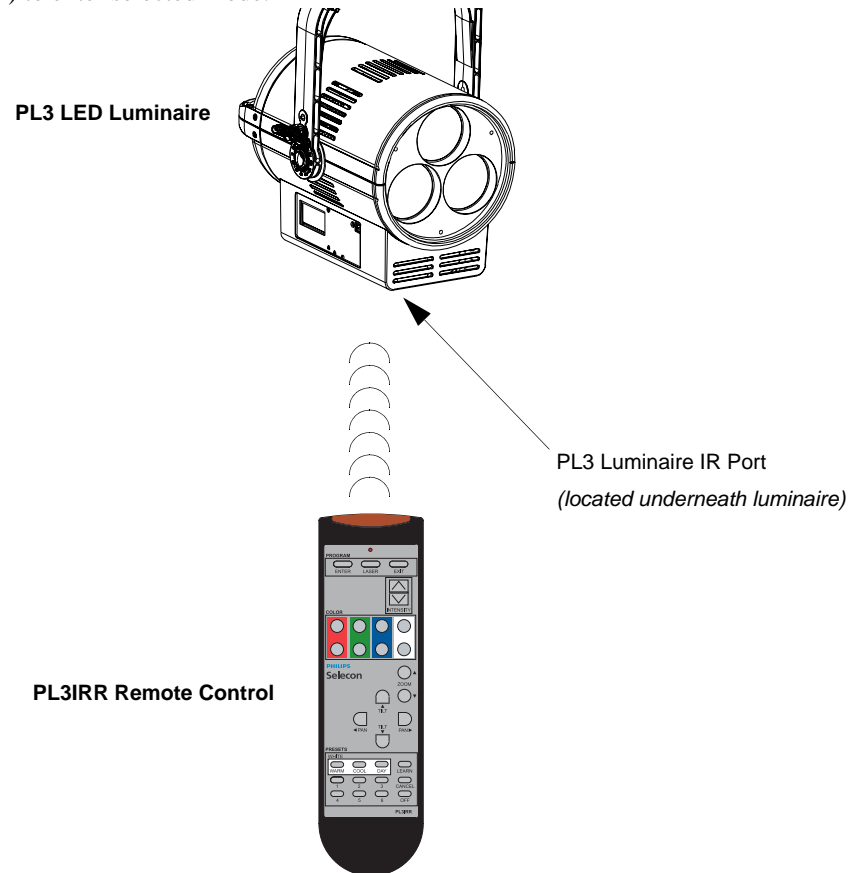

Figure 4: PL3 LED Luminaire Programming / Control
- Step 1. Aim PL3IRR programming remote (as shown in **Figure 4**) and press "Enter" button. Luminaire will flash an LED (at bottom of unit) to provide a target for the laser to aim at. Luminaire will look for laser beam (from PL3IRR) to enter selected mode.